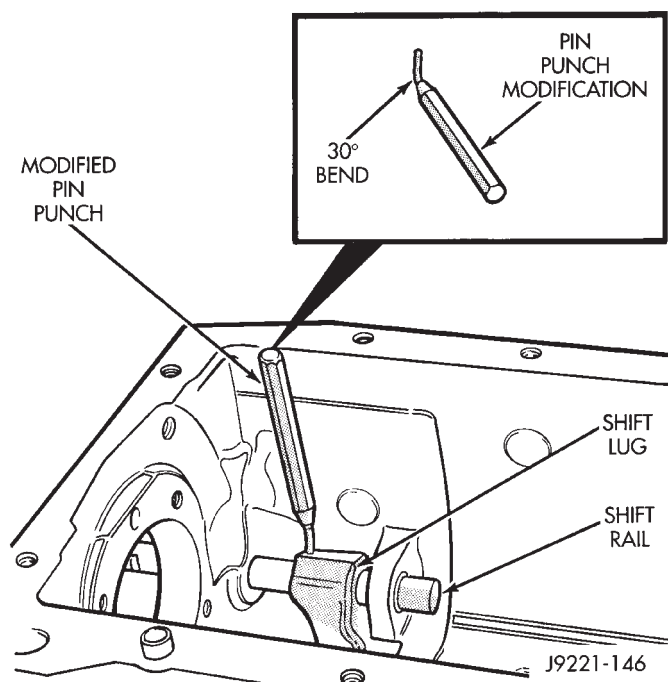

Fig. 58 Removing Shift Lug Roll Pin
(3) Remove roll pin that secures shift lug on shift rail in case (Fig. 58). A small pin punch can be modified by putting a slight bend in it to drive pin completely out of shift rail (Fig. 58).
(4) Remove shift lug rail.